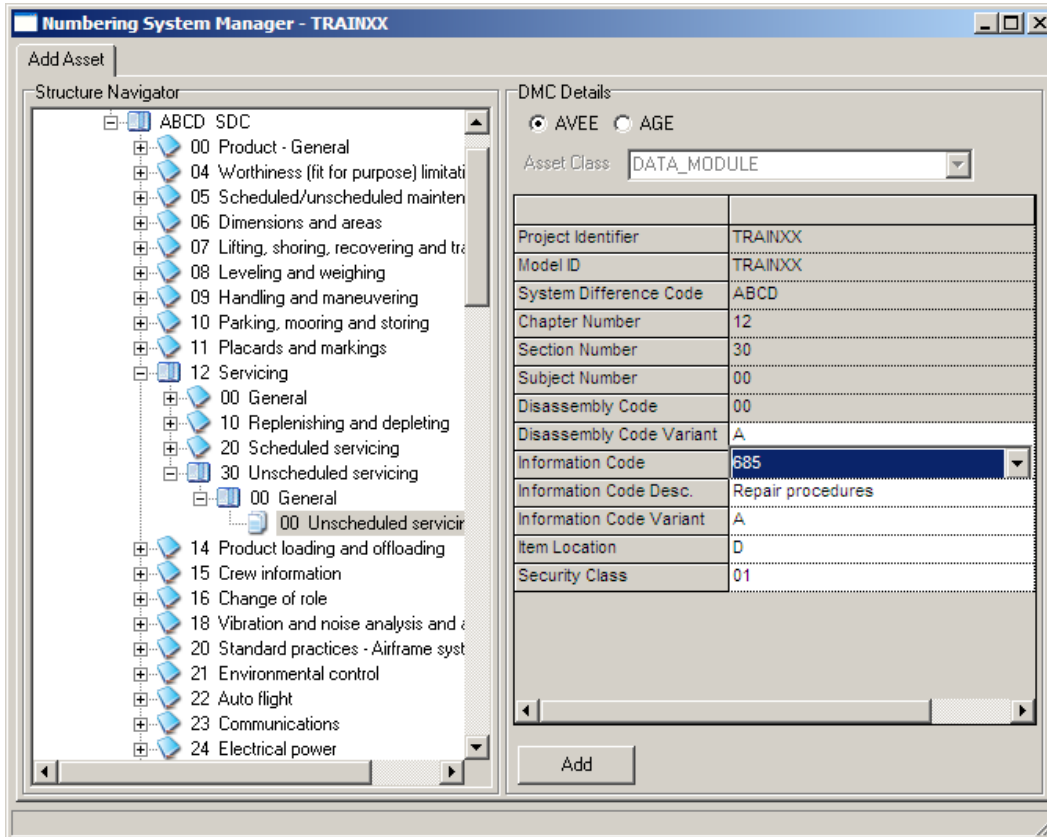

Figure 15. Numbering System Manager.
- Choose the **Create DM Code** button on the Task Data Module Maintenance Window. The Numbering System Manager is displayed as shown in Figure 15.